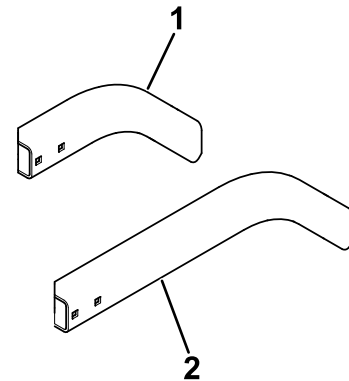

**Figure 18**
4. Secure the left short mount the left mount using 2 carriage bolts (5/16 x 3/4 inch) and 2 flange nuts (5/16 inch) as shown in Figure 18.